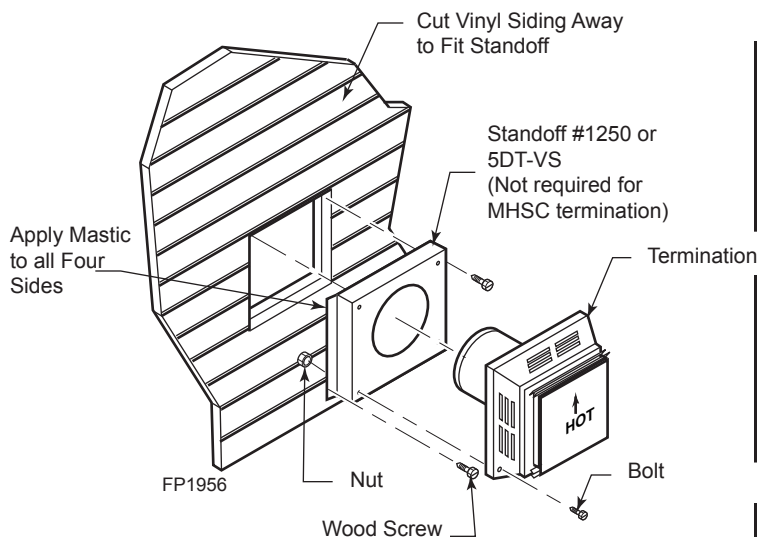
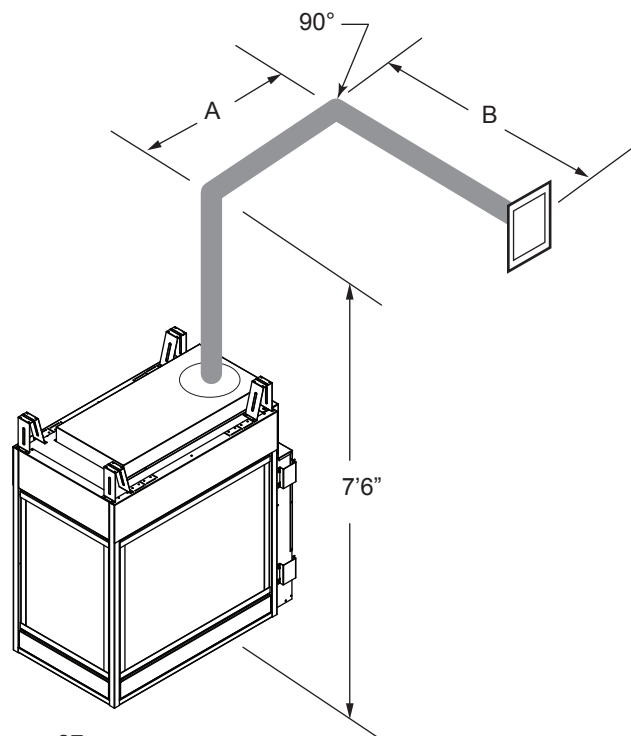

**Figure 23 -
*Figure 27 -
For vinyl siding, stucco or wood exterior, use vinyl siding standoffs between vent cap and exterior wall for Simpson or Selkirk Terminations only. The vinyl siding standoff prevents excessive heat from melting the vinyl siding material. **NOTE:** MHSC Termination does not require standoff. Bolt the vent cap to the standoff or wall. Apply non-hardening mastic around outside edge of the standoff instead of the vent cap assembly. Use wood screws provided to attach the standoff. *Figure 23*
- If a 90° elbow is used in the horizontal vent run (level height maintained) the horizontal vent length is reduced by 36". *Figure 23*. This does not apply if the 90° elbows are used to increase or redirect a vertical rise. *Figure 27*
In *Figures 27 and 28* dimension A plus B must not be greater than 17' (5.2 m).
- Two sets of 45° elbows offsets may be used within the vertical sections. From 0 to a maximum of 8' (2.5 m) of vent pipe can be used between elbows. *Figure 27*
- The maximum angular variation allowed in the system is 270°. *Figure 27*